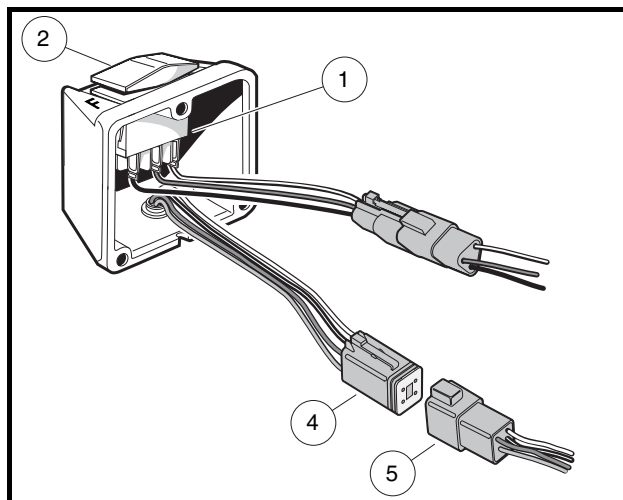

Figure 12-9 IQDM Jack On F&R Switch Housing (Early DS and DS Villager 4)
- 3.1. Remove the three self-tapping screws that hold the F&R rocker switch case (2) to the body (Figure 12-9, Page 12-18).